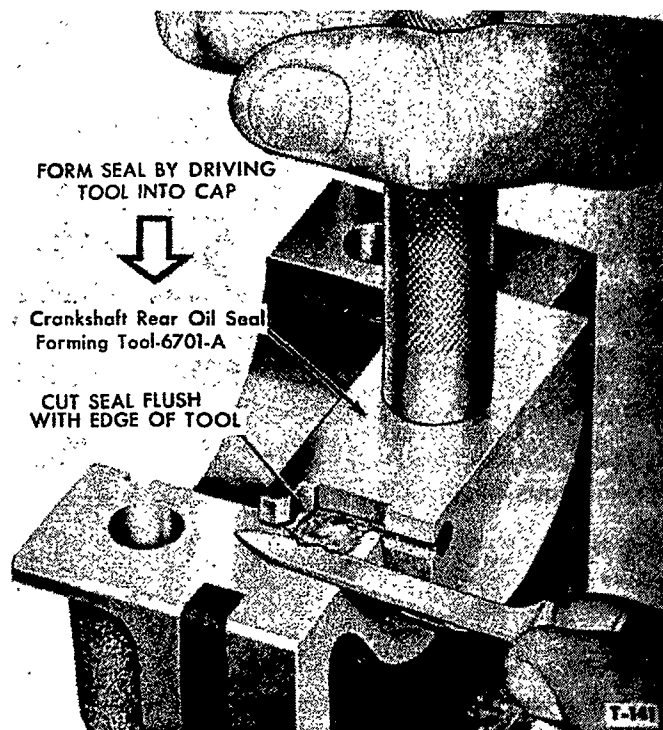

Figure 65—Installing Rear Main Bearing Cap Oil Seal
- Clean the main bearing bores and oil seal groove thoroughly before installing the bearings in the block. Soak the main bearing oil seals in engine oil at least for 1/2 hour before installation. Work the seals into the rear main bearing cap and cylinder block, then seat them with forming Tool 6701-A and hammer. Cut the edges flush as shown in Figure 65.